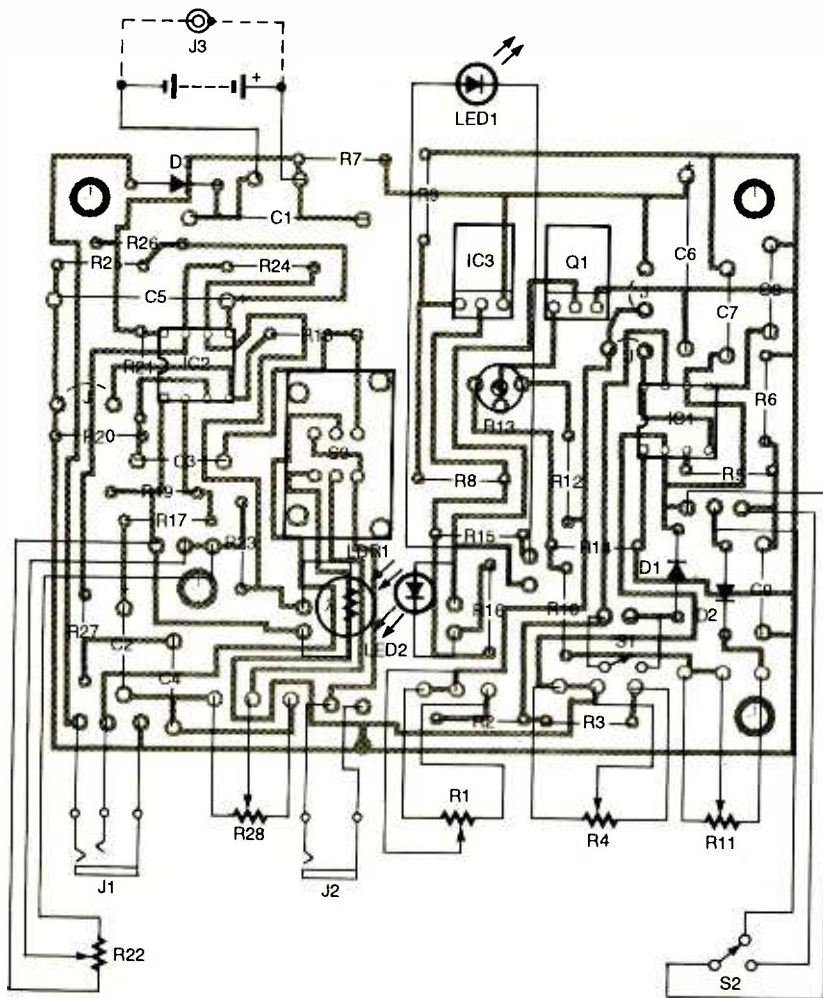

Fig. 3. This component layout keeps oscillator and modulator separate. Don't forget the three jumpers shown in dotted lines.
**Construction—Beware Of Ticks!** Not the six-legged variety...audio ticks! While the Tremulous Bear circuit isn't very complicated, this is a design pitfall that you should know about. Looking at Fig. 3, notice that the PC board layout clearly separates the LFO from the modulator. This also makes it easy to physically separate the leads that go off-board from the modulator from those for the LFO. If you hand-wire or create a different PC board layout, I strongly suggest that you fol-
Insert the components according to the parts-placement diagram in Fig. 3, starting with the resistors and the capacitors. The jumpers shown in dotted lines are just short pieces of bare copper wire. The ICs and power MOSFET Q1 should be inserted last. You may want to read the next section before you install S3, because it explains how I handled the bypass switching and what your choices are.